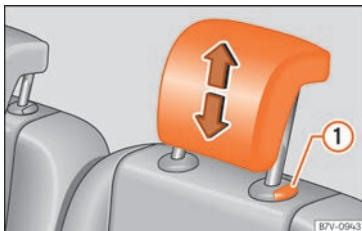

Fig. 155 Adjust the head restraints in the second or third row of seats
- Raise the head restraint in the direction of the arrow or lower it » **Fig. 154** or » **Fig. 155** with the button pressed » in Removing and installing the head restraints on page 149.